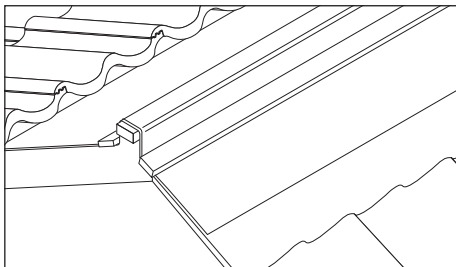

Fig. 2 – Lay underlay over ridge batten
- 2 Lay the top edges of the roofing underlay (or additional length) loosely over the ridge batten and secure the top course battens such that the appropriate ridge tile headlap can be maintained (Fig. 2).